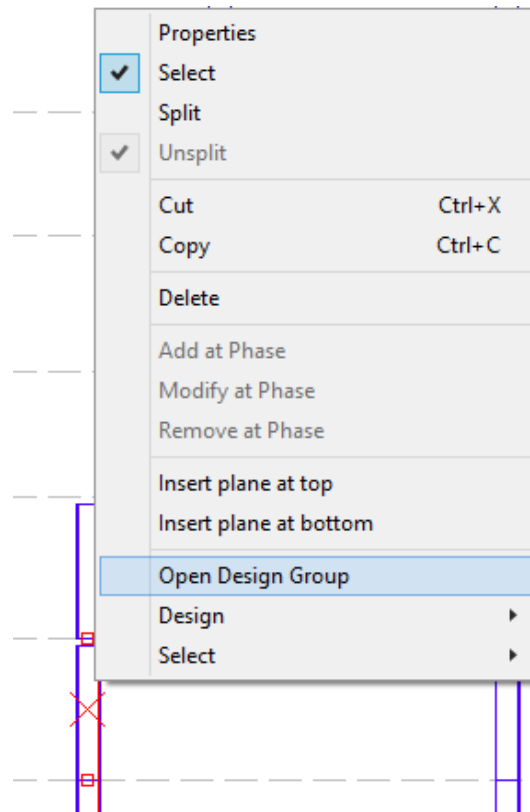

Figure 2-10 Right-Click Column Selection - Open Design Group
- Open the Section Type Manager (*Column Design* ➔ *Type Manager*) or by right-clicking one of the columns that was just selected and select *Open Design Group* as shown in **FIGURE 2-10**.